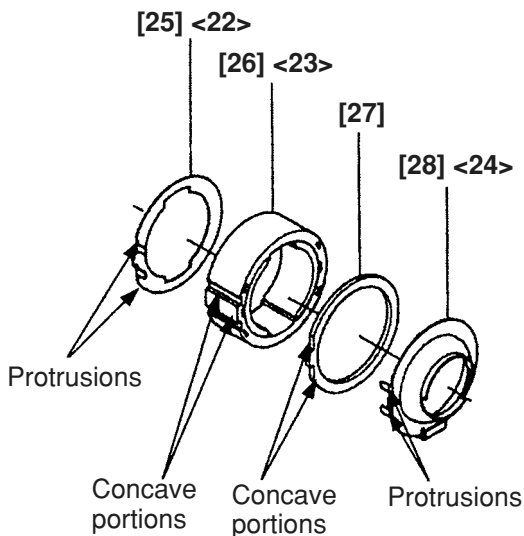
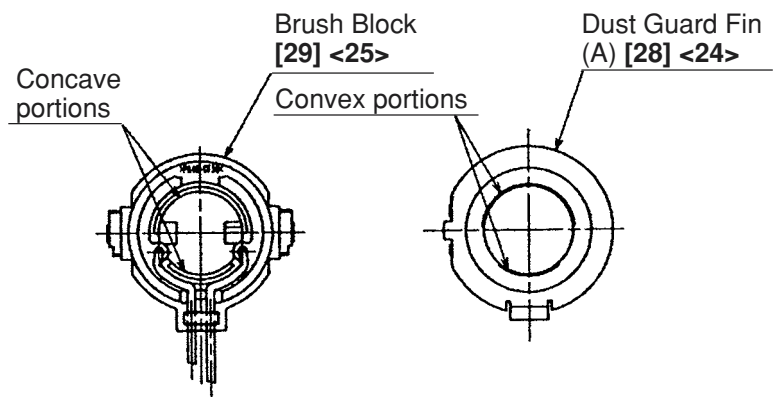

Fig. 8
Fig. 9
- Adjust the protrusions of Dust Guard Fin (A) [28] <24> to the concave portions of Magnet (D) [26] <23> and the Magnet Spacer [27] (Model WH 9DM2 only) and also adjust the outside diameter of Dust Guard Fin (A) [28] <24> to the outside diameters of Magnet (D) [26] <23> and the Magnet Spacer [27] (Model WH 9DM2 only) when mounting Dust Guard Fin (A) [28] <24> and the Magnet Spacer [27] (Model WH 9DM2 only) to Magnet (D) [26] <23> (see Fig. 8).
- Insert the two Dampers <19> so that they fit into Inner Cover (A) <20>. Fit the locking rib of Ring Gear (C) <16> to the concave portion of Damper <19>. Press-fit the Armature Ass'y <21> into Inner Cover (A) <20> (Model WR 9DM2 only).
- Fit the locking rib of Ring Gear (D) [20] to the concave portion of Inner Cover (A) [23]. Press-fit the Armature Ass'y [24] into Inner Cover (A) [23] (Model WH 9DM2 only).
- Adjust the convex portion of Dust Guard Fin (A) [28] <24> to the concave portion of the Brush Block [29] <25> (see Fig. 9).
- Adjust the concave portions (for locking) of Magnet (D) [26] <23> and the Magnet Spacer [27] (Model WH 9DM2 only) to the protrusions of housing (A) (see Figs. 8 and 10).